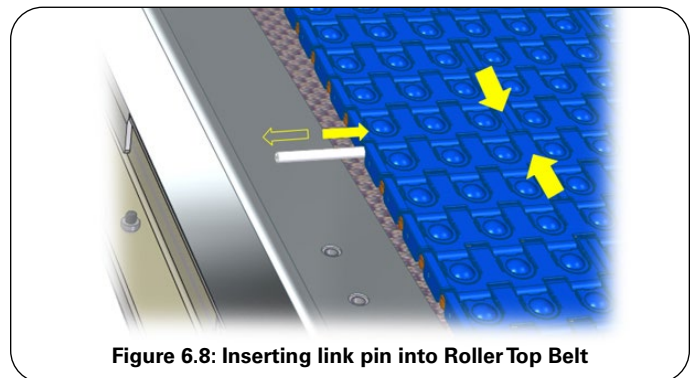

Figure 6.8: Inserting link pin into Roller Top Belt
- With the help of an assistant, apply pressure to each side of the links you will be separating to relieve pressure on the pin. (Figure 6.8).
- c. Using a small screw driver, push the pin a short distance from one direction, then from the other to determine if removal will be easier in one direction or the other. Manually remove the pin from the link connection in the easiest direction. (Figures 6.8 and 6.9).
- e. With the help of an assistant, again compress the ends of the belt together to aid in re-inserting the pin into the belt, as shown in (Figure 6.8).